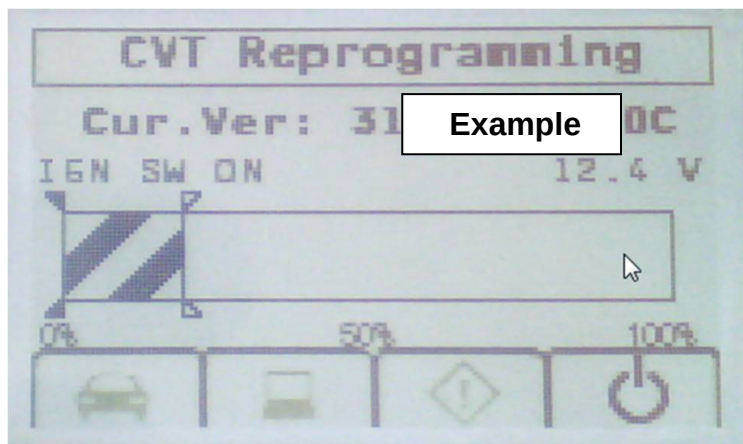

Figure A12
- **If reprogramming is required**, reprogramming will begin automatically. A progress bar will be displayed showing the percent complete, and the car icon will flash during the reprogramming process (see Figure A12).